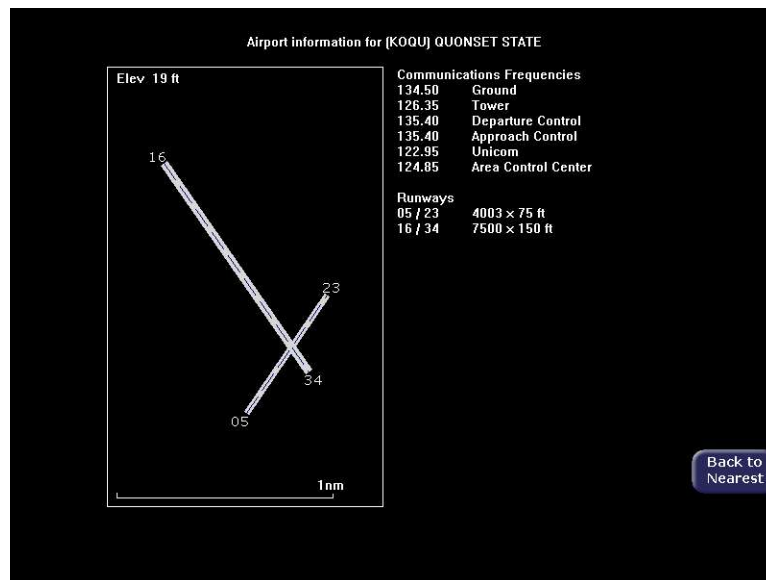

Figure 8.2 Airport Information Page
- 3) **Airport Info**—Provides quick access to airport information for the airport highlighted. *Airport Info* only appears when viewing the Airports Nearest to Position and Airports Nearest to Destination. Airport Info displays a page similar to Figure 8.2.
- 5) **FILTER**—Press to see all airport types (SHOW ALL) or only the airport types as defined on the Airport Filter page (ON) (see